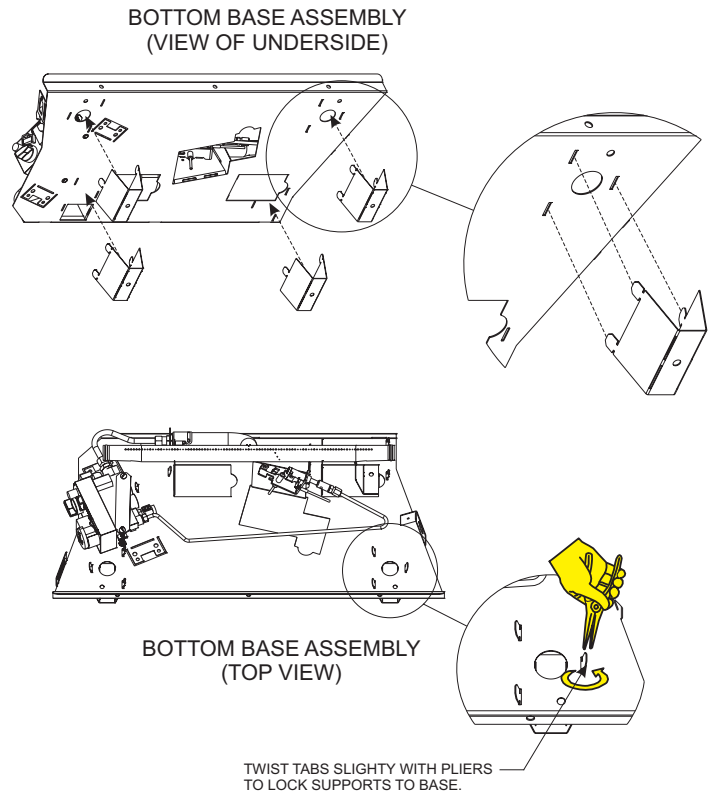

Figure 10
- If a Remote Control option is to be used with the VFRL (millivolt) series burner without the Support Legs installed, the remote receiver box must be installed outside of the firebox away from excessive heat. However, the remote receiver may be placed under the elevated Loft Burner by installing the Burner Support Legs. See Figure 10. If the Support Legs are to be installed, simply bend each of the legs into a "U" shape to match the drawing in Figure 11. Next, install the legs into the bottom base. Line up the three tabs on each leg with the slots provided, using pliers twist each of the tabs slightly in order to secure the legs to the bottom base.
- Installation of the Burner Support Legs is necessary on the VFIL (remote ignition) series burners. These models include a remote receiver box that must be placed under the bottom base of the Loft Burner assembly to shield the receiver batteries from excessive heat. See Figure 17. To install the Support Legs, simply bend each of the legs into a "U" shape to match the drawing in Figure 11. Next, install the legs into the bottom base. Line up the three tabs on each leg with the slots provided, using pliers, twist each of the tabs slightly to secure the legs to the bottom base. See Figure 10.